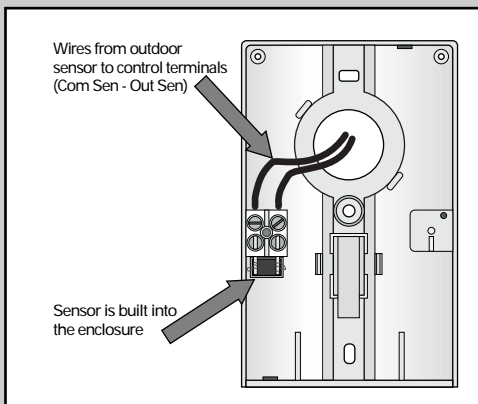

Figure 2-19
6. Connect 18 AWG or similar wire to the two terminals provided in the enclosure, and run the wires from the outdoor sensor to the station control. (See Figure 2-19.)